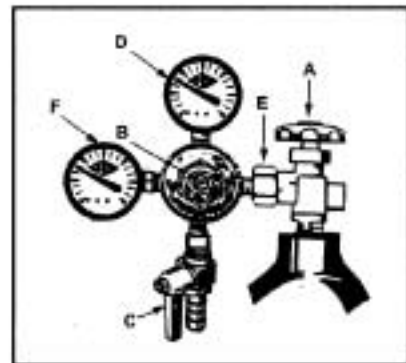

Fig. 11
- 16. Adjusting the CO₂ Regulator:** There are two pressure gauges on the CO₂ regulator. **See Fig. 11** The upper gauge #1 monitors "LOW" (internal keg) pressure and must be adjusted to the correct operating pressure of 10-12psi/lbs. The lower gauge #2 monitors "HIGH" (CO₂ cylinder) pressure and is not adjustable. The high pressure gauge also acts as a fuel gauge to let you know when the CO₂ cylinder needs re-filling.
1. Close the main cylinder valve (A) by turning in a clockwise direction. See Fig.11
2. Close the secondary shut-off valve (C) by turning to "horizontal" (east/west) position on lower stem pipe. See Fig.11
4. Remove the regulator assembly (E) from empty cylinder. See Fig.11
6. Re-attach regulator assembly (E) to new/replacement cylinder. See Fig.11
8. Slowly open main valve (A) all the way. See Fig. 11
9. Readjust regulator pressure (D) (if necessary) between 10 ~ 12 psi/lbs.
10. Open the secondary shut-off valve (C) by turning to "vertical" (north/south) position on lower stem pipe.